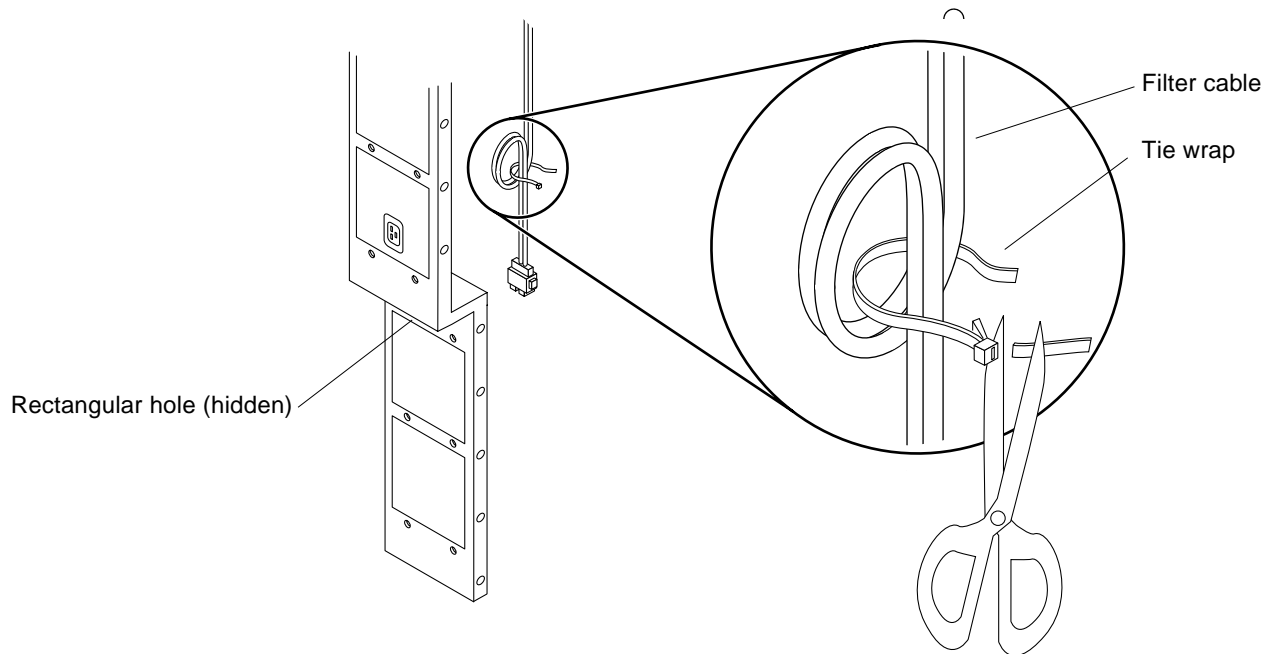

Figure 2-8 Freeing the Filter Cable
- a. On the inside of the power supply cage, cut the tie wrap and uncoil the cable. See Figure 2-8.**